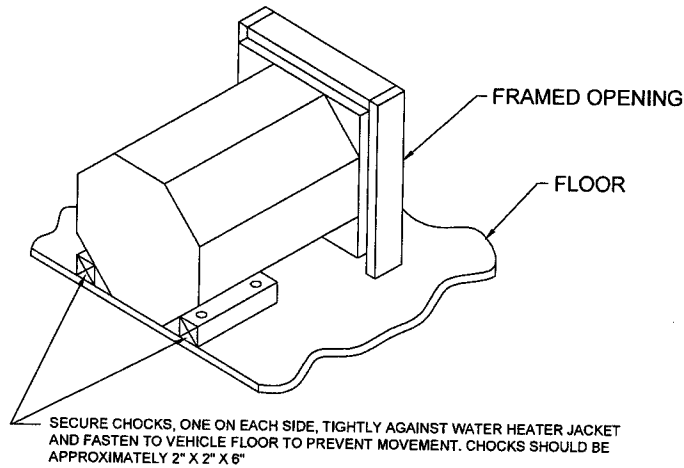

Figure 1B
- H. Install chocks, one on each side of water heater, as illustrated in Figure 1B.
- C. Install chocks, one on each side of water heater, as illustrated in Figure 1B.
- G. Insert door frame into control housing and secure with three (3) No. 8-15 x 3 1/2" screws provided.